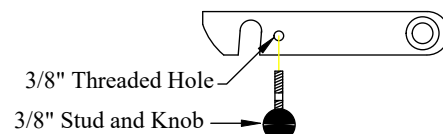

Figure 18: Original Series platform latch knob.
- 1. Install** the two (2) knobs on the platform latches (Original Series only) see (Figure 18).
- 2. Install** the two (2) square plastic insert nuts for the license plate into the square holes on the liftgate.
- 3. Install** the license plate using the two (2) stainless steel screws provided.